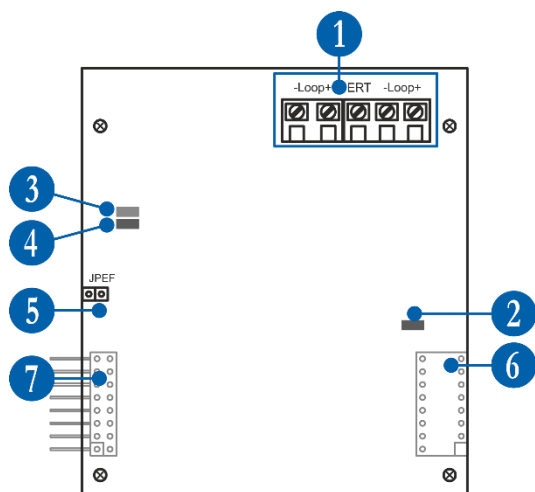

Figure 22
The iRIS8 TTE Loop Expander (see item 4.5.2, Figure 22) realizes the connection between the Output Module (OUT1 and OUT2) and devices connected to the communication line.